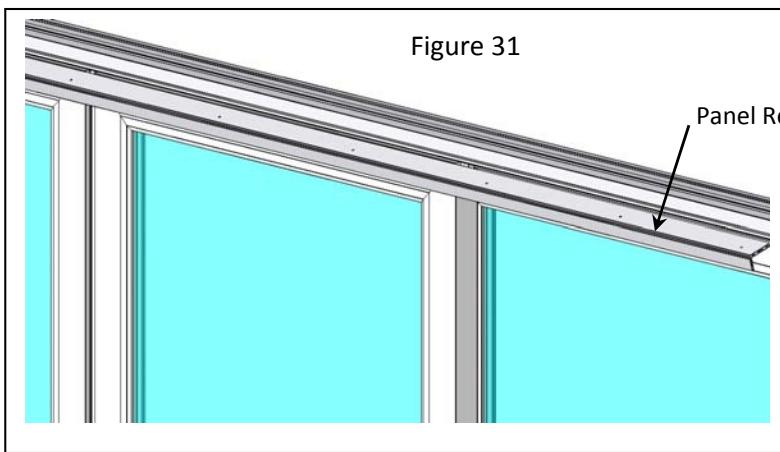

Figure 31
23) Place the panel retainer into the head, between the side jambs and over the operating panels as shown (Fig. 31). Rotate the retainer up into the head until it is seated. Be sure the rib in the head goes between the fingers on the retainer as shown (Fig. 32). Install #8 x 7/8" Flat Head screws into the pre-punched holes in the retainer and up into the head. Start with the screws at the two ends and then open the operating panels and install remaining screws.